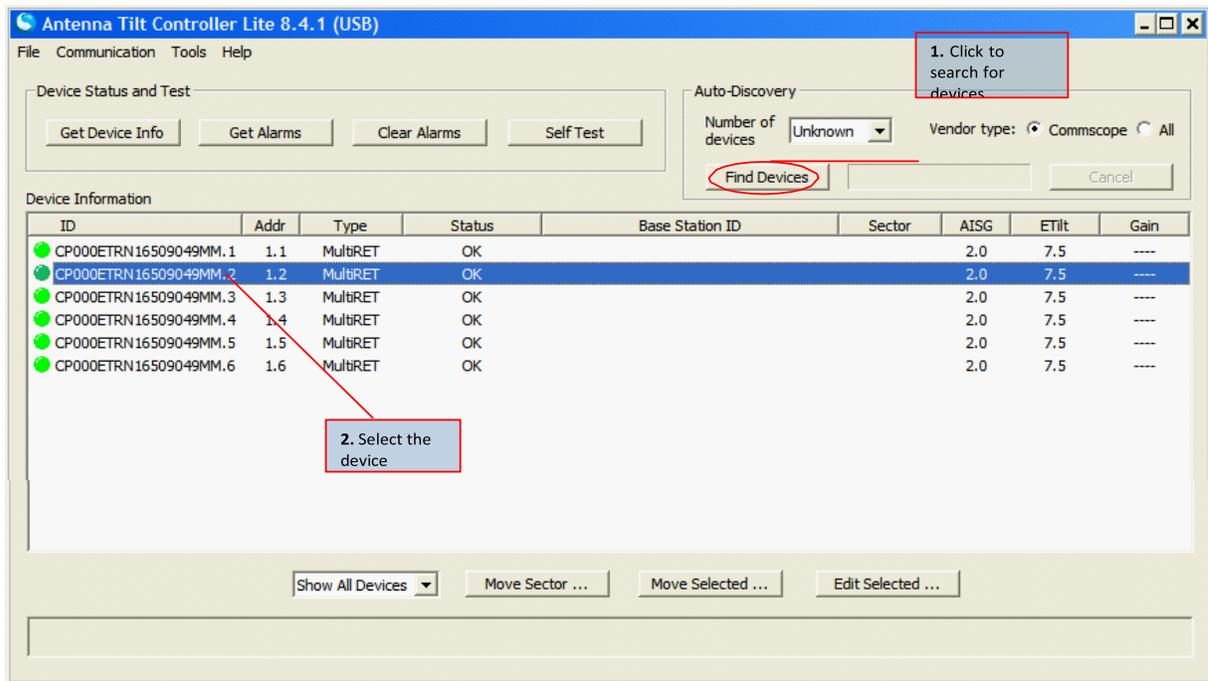

Figure 15-1. Select Device for Changing Antenna Sharing
2. After the device search is complete, select the device from the display list as shown in Figure 15-1. For an MRET, any subunit can be selected for antenna sharing configuration of the RET system.